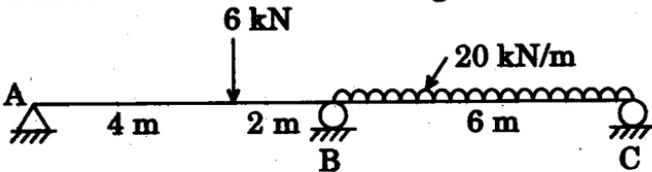

Figure 4
5. Determine the reaction components in the continuous beam as shown in Figure 4. 14